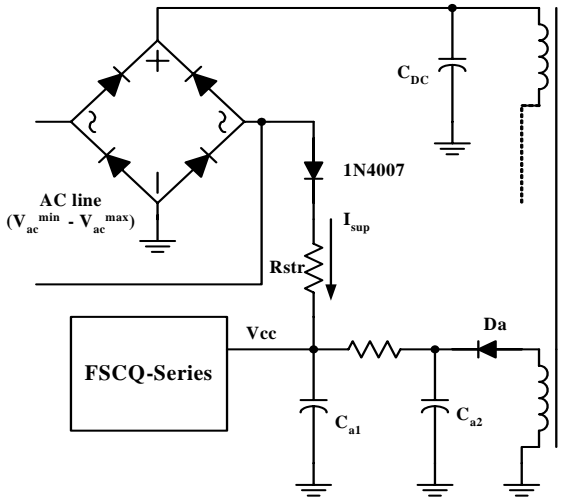
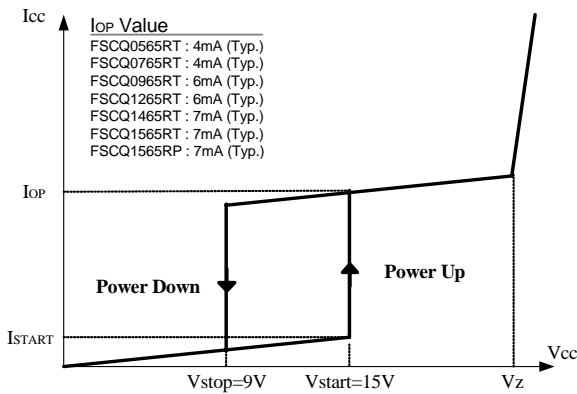

Figure 4. Startup circuit
Figure 5. Relationship Between Operating Supply Current and Vcc Voltage
1. **Startup:** Figure 4 shows the typical startup circuit and the transformer auxiliary winding for the FSCQ-Series. Before the FSCQ-Series begins switching, it consumes only startup current (typically 25uA). The current supplied from the AC line charges the external capacitor (Ca1) that is connected to the Vcc pin. When Vcc reaches the start voltage of 15V (VSTART), the FSCQ-Series begins switching, and its current consumption increases to IOP. Then, the FSCQ-Series continues its normal switching operation and the power required for the FSCQ-Series is supplied from the transformer auxiliary winding, unless Vcc drops below the stop voltage of 9V (VSTOP). To guarantee the stable operation of the control IC, Vcc has under voltage lockout (UVLO) with 6V hysteresis. Figure 5 shows the relationship between the operating supply current of the FSCQ-Series and the supply voltage (Vcc).